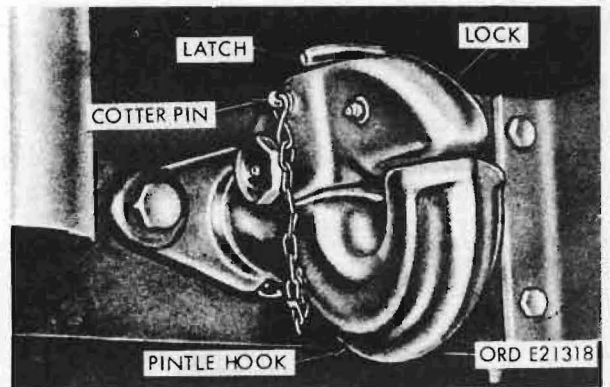

Figure 45. Towing pintle hook
(31) Towing pintle hook (fig. 45).